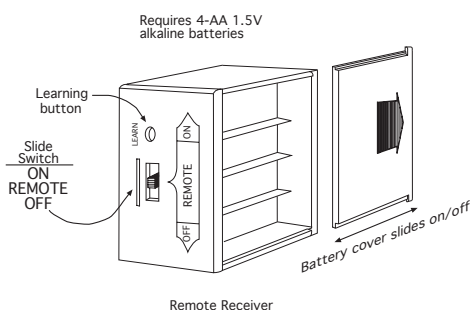

Fig. 12 Installing Batteries
First, install (4) AA-size 1.5 ALKALINE batteries in the remote receiver (Fig 12). For best performance, remote receiver batteries should be factory fresh when installed. The system operates best when battery output is greater than 5.3 volts. Four (4) new AA batteries should provide an output voltage of 6.0 to 6.2 volts. Be sure batteries are installed with the (+) and (-) ends facing the correct direction.